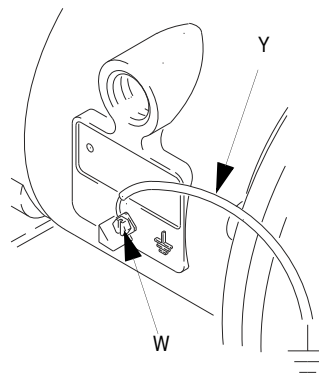

FIG. 1
- *Pump:* Connect a ground wire and clamp as shown in Fig. 1. Loosen the grounding screw (W). Insert one end of a 12 ga (1.5 mm²) minimum ground wire (Y) behind the grounding screw and tighten the screw securely. Connect the clamp end of the ground wire to a true earth ground. Order ground wire Part Number 819.0673.